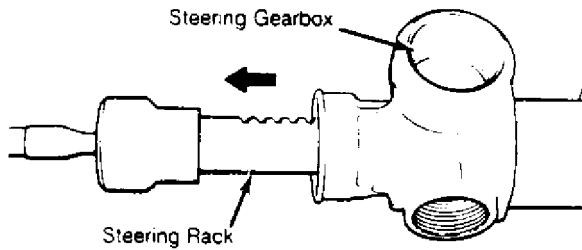

Fig. 2: Removing Rack From Housing
5) Loosen tie rod ball joint. Remove tie rod from rack. Pulling toward side of pinion shaft, remove rack from housing. See Fig. 2.